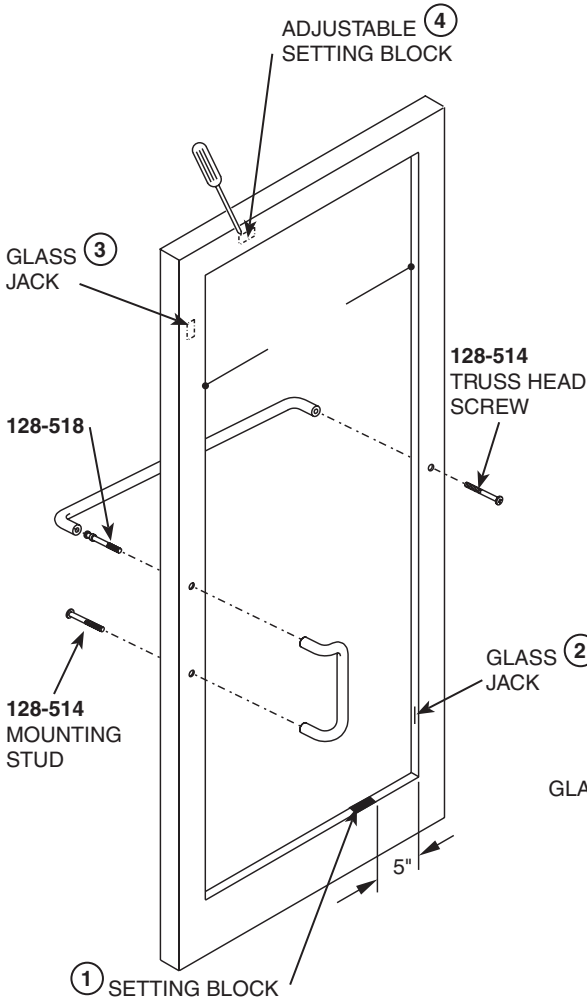

FIGURE 1
1. Raise adjustable setting block 4 to a maximum retracted position (Figure 1).
2. Install setting block at 1 and caps at 2,3 and 4. Setting block and caps found in glazing package (Figure 1).
3. Install glass in place, centered between stiles and tight against bottom rubber setting block (Figure 1).